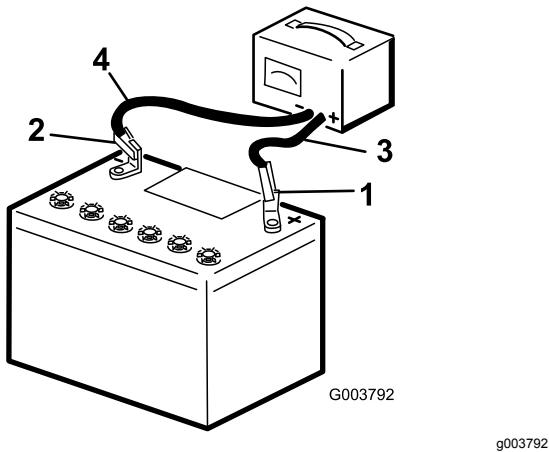

Figure 39
2. Charge the battery for 10 to 15 minutes at 25 to 30 A or 30 minutes at 4 to 6 A (Figure 39). Do not overcharge the battery.
3. When the battery is fully charged, unplug the charger from the electrical outlet, then disconnect the charger leads from the battery posts (Figure 39).